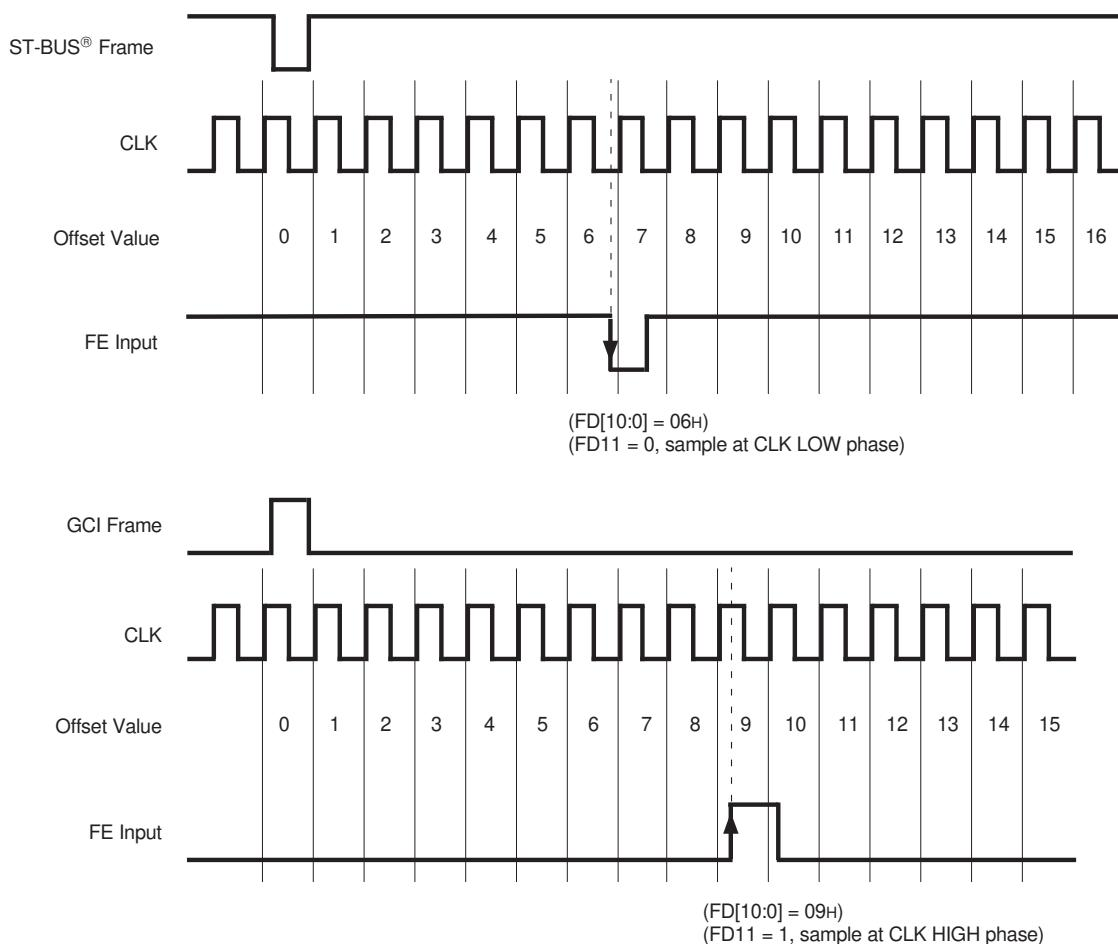

Figure 4. Example for Frame Alignment Measurement
In ST-BUS® mode, the falling edge of the frame measurement signal (FE) is evaluated against the falling edge of the ST-BUS® frame pulse. In GCI mode, the rising edge of FE is evaluated against the rising edge of the GCI frame pulse. See Table 7 and Figure 4 for the description of the frame alignment register.